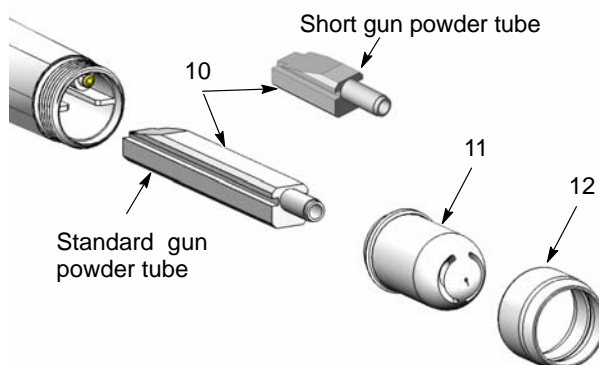

Figure 16 Removing the Air Cap and Powder Tube
3. See Figure 16. Unscrew the retaining nut (12) and remove it from the spray gun.
4. Unscrew the nozzle (11) from the retaining nut.
5. Pull the powder tube (10) out of the adapter.